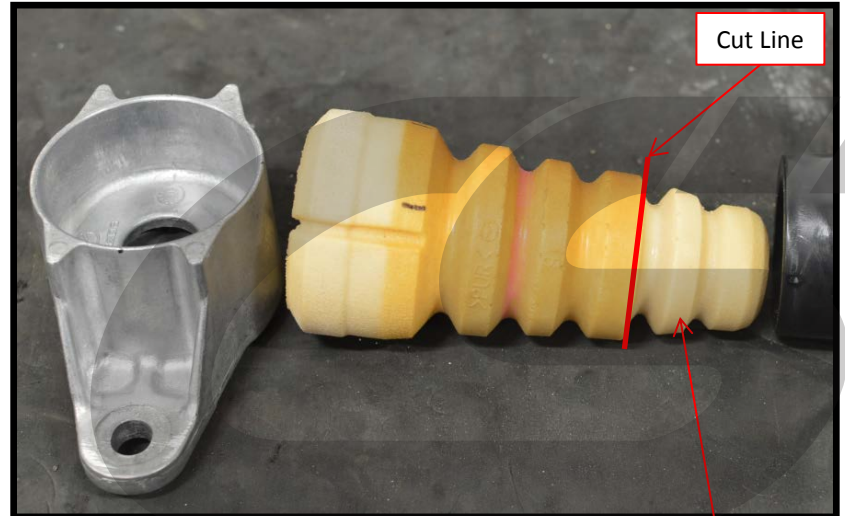

Figure 6b
- d) **Using a new razor blade, cut the bump stop at the red line in Figure 6b.**